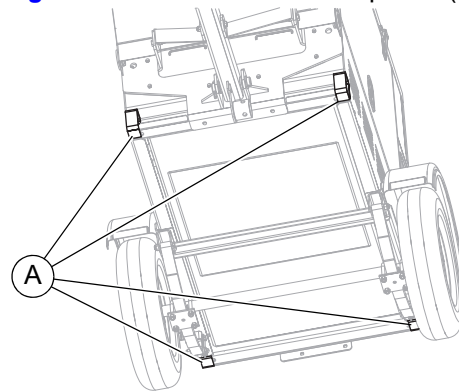

Figure 3-13. Tie-Down Points
See Figure 3-13. Use the tie-down points (A) as shown.